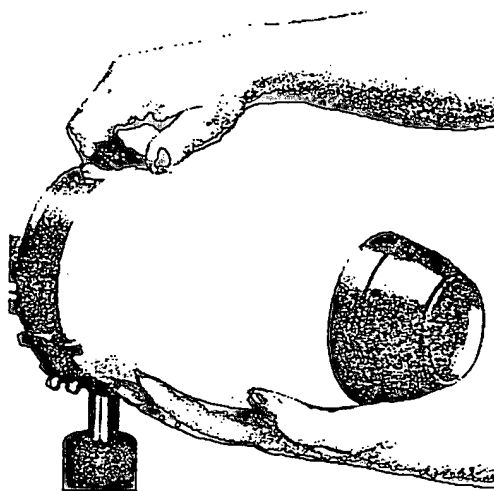

Figure 13
2. Unlatch three draw latches while carefully supporting the shroud. See Figure 13.